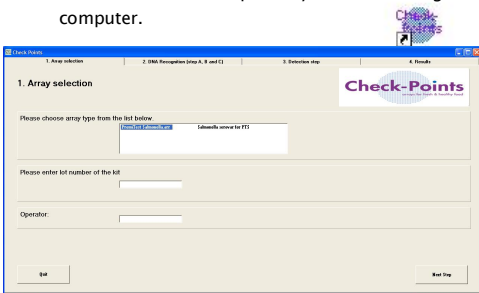

Figure 2: screen '1'. Array Selection"
- Double Click on "PremiTest Salmonella" in sheet 1 "Array selection" of the Check-Points software as shown in figure 2.